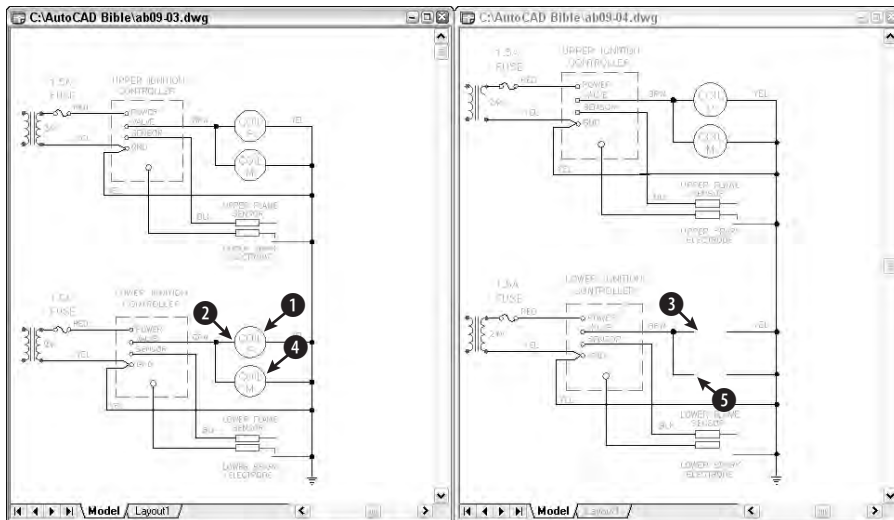

Figure 9-7: To copy objects from one drawing to another, display them both on the screen together. (The drawings may appear reversed on your screen.)
2. Choose **Window** ⇨ **Tile Vertically**. This displays the drawings side by side, as shown in Figure 9-7.
4. Pick the circle at ❶ and the two lines of text inside it.
6. At the **Specify base point:** prompt, pick the endpoint at ❷ in Figure 9-7.
7. Click anywhere in `ab09-04.dwg` to make it the current drawing. Right-click and choose **Paste** from the shortcut menu. At the **Specify insertion point:** prompt, pick the endpoint at ❸ in Figure 9-7. AutoCAD pastes the objects.
8. Click in `ab09-03.dwg`. Press **Esc** to clear any grips. Pick the circle at ❹ in Figure 9-7. (Don't include the text this time.) Click again and hold the mouse button on the circle, but not on the grips, until you see the pointer arrow with the rectangle. Drag the circle to ❺ in Figure 9-7. As you can see, you have no way to precisely place the circle.
9. Click in `ab09-03.dwg` again. This time pick both lines of text inside the circle at ❻. Right-click and choose **Copy** with **Base Point**. At the **Specify base point:** prompt, pick the endpoint at the left quadrant of the circle.